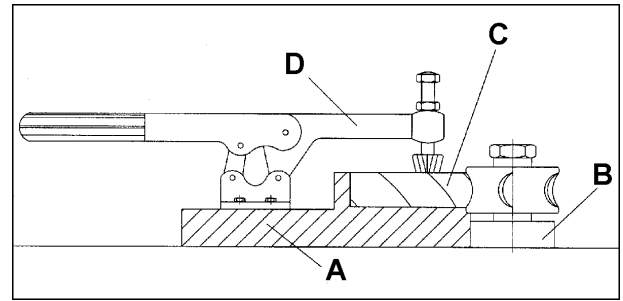

FIGURE 40
1. Prepare the jig (A) to accommodate your original workpiece. See Figure 40.
2. Place the jig (A) against the table ring guide shoulder (B).
3. Fasten the new workpiece (C) on the jig (A) with the clamp (D) and push the assembly past the cutter.